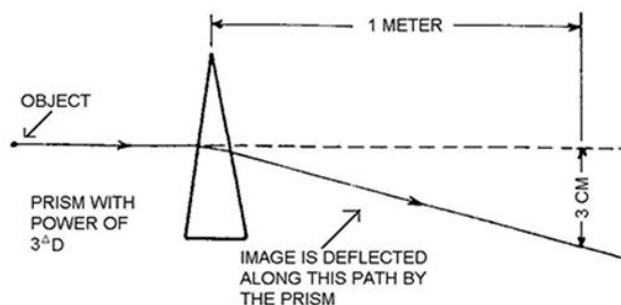

Figure 1-34. Illustration of how dioptric power of a prism is determined.
Remember that prisms are responsible for two actions: deviation and dispersion. The deviation of light by a prism can have a positive effect when used in the glasses of strabismic patients. Prismatic power is rated in diopters, just like lenses. Figure 1-34 gives an example of how a prism's dioptric power is determined. When used in optical systems, such as glasses, the orientation of the prism in the lens is listed in terms of the base's orientation—base up (BU), base down (BD), base in (BI), or base out (BO). An example of prism written on a prescription pad would look like this: -2.00 SPH 2▲BU. This is how you would read it, minus two sphere and two diopters of prism base up.